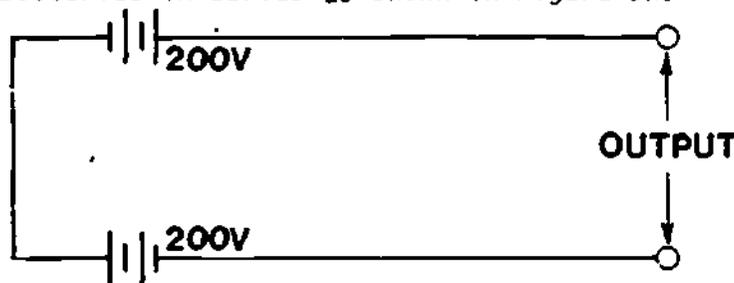

figure 10
11. The effect of series aiding is comparable to connecting two 200 volt batteries in series as shown in Figure 10.
The series aiding output voltage of Figure 10 is _____ volts.